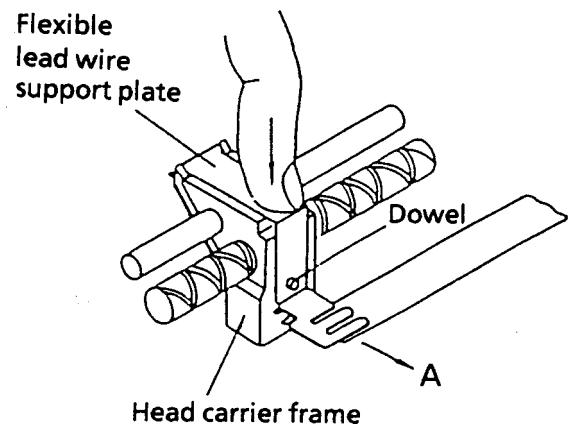
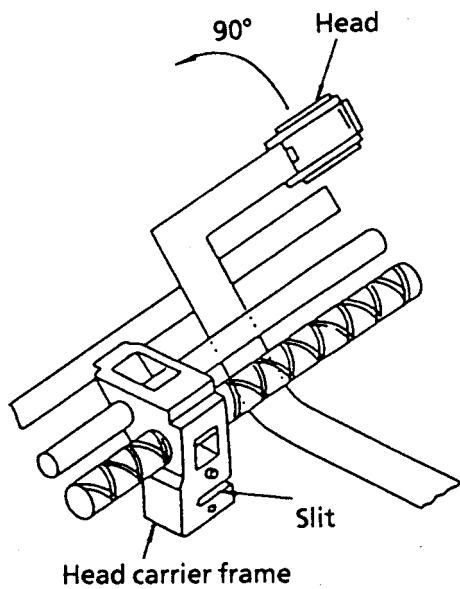

Figure 8-13 Pulling out the Flexible Cable Plate
Figure 8-16 Rotating the Head Portion of the Unit
③ Pull out the flexible cable plate in the direction shown by arrow A holding the edge of the plate with a finger, then disengage the plate from the dowel of the head carrier (see Figure 8-13).
- ③ After inserting the head unit terminal, arrange the components as shown in Figure 8-16. Then, rotate the head portion of the unit by 90° into the position shown in Figure 8-13.